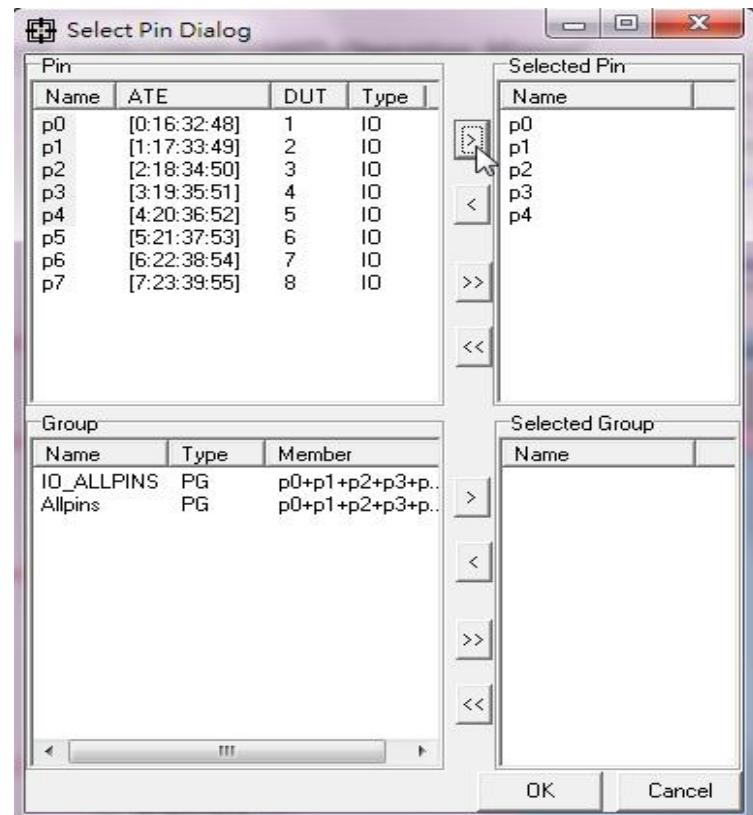
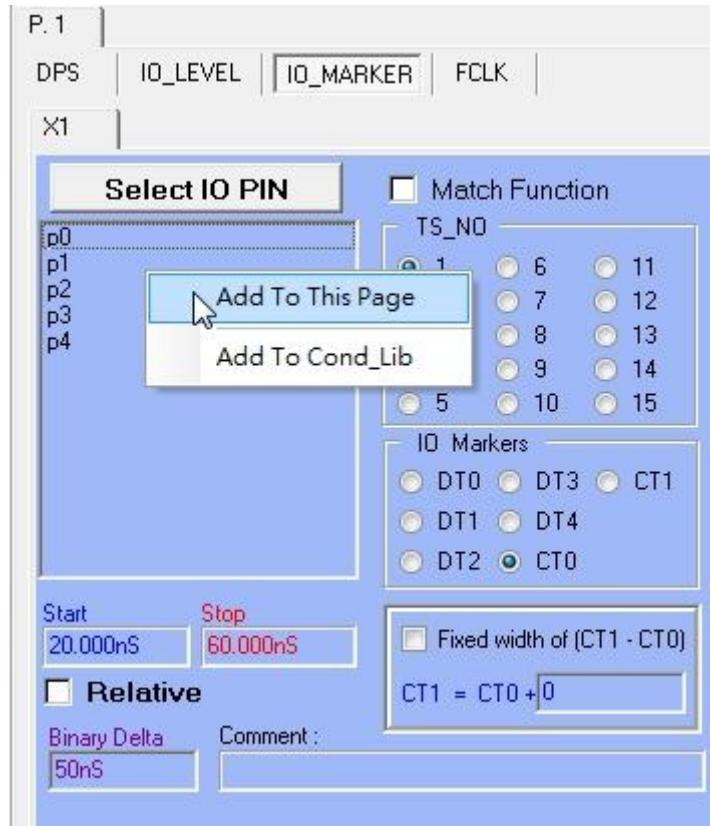

Figure 14-8 Pin Selection Dialog
Figure 14-9 Popup menu of setup window
- (1) Press the pin selection button to popup the “Select Pin Dialog” (Figure 14-8).
- (2) Select the pins you want to get the margin value. After the selection is finished, all the selected pins will be displayed on the selected pins list.
- (3) Key in start/stop values as the searching range.
- (4) Key in “Binary Delta” for binary search to stop.
- (5) To add a comment to a plot display of pin margin, key in a desired character string in the comment area.
- (6) Click the right key of mouse and select “Add To This Page” (Figure 14-9). If you want to add this test condition to “Test Condition Library”, then select the “Add to Cond_lib”.
- (7) If you want to use “Relative”, you just click the mouse on the CheckBox.
- (8) If you want to use “Match Function”, you just click the mouse on the CheckBox, and the match pin selection button will be displayed. Not all test conditions has this selection.
- (9) Press “Select Match Pins” button to popup “Select Pin Dialog”.
- (10) Select the match pins you want to mask it.